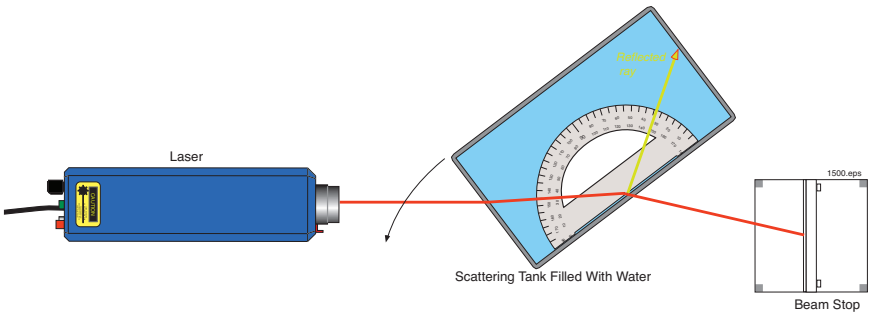

Figure 11. Total internal reflection of the laser beam.
7. Depress the ON/OFF switch (SW) on the control scattering tank of the laser until it clicks into the ON position. (The switch should be slightly depressed.) The pilot light (green LED) should now be lit, showing that the laser is on.
10. If the laser beam is not reflecting inside the scattering tank, move the tank in the direction shown in Figure 11. Rotate the laser so its beam totally reflects inside the scattering tank.